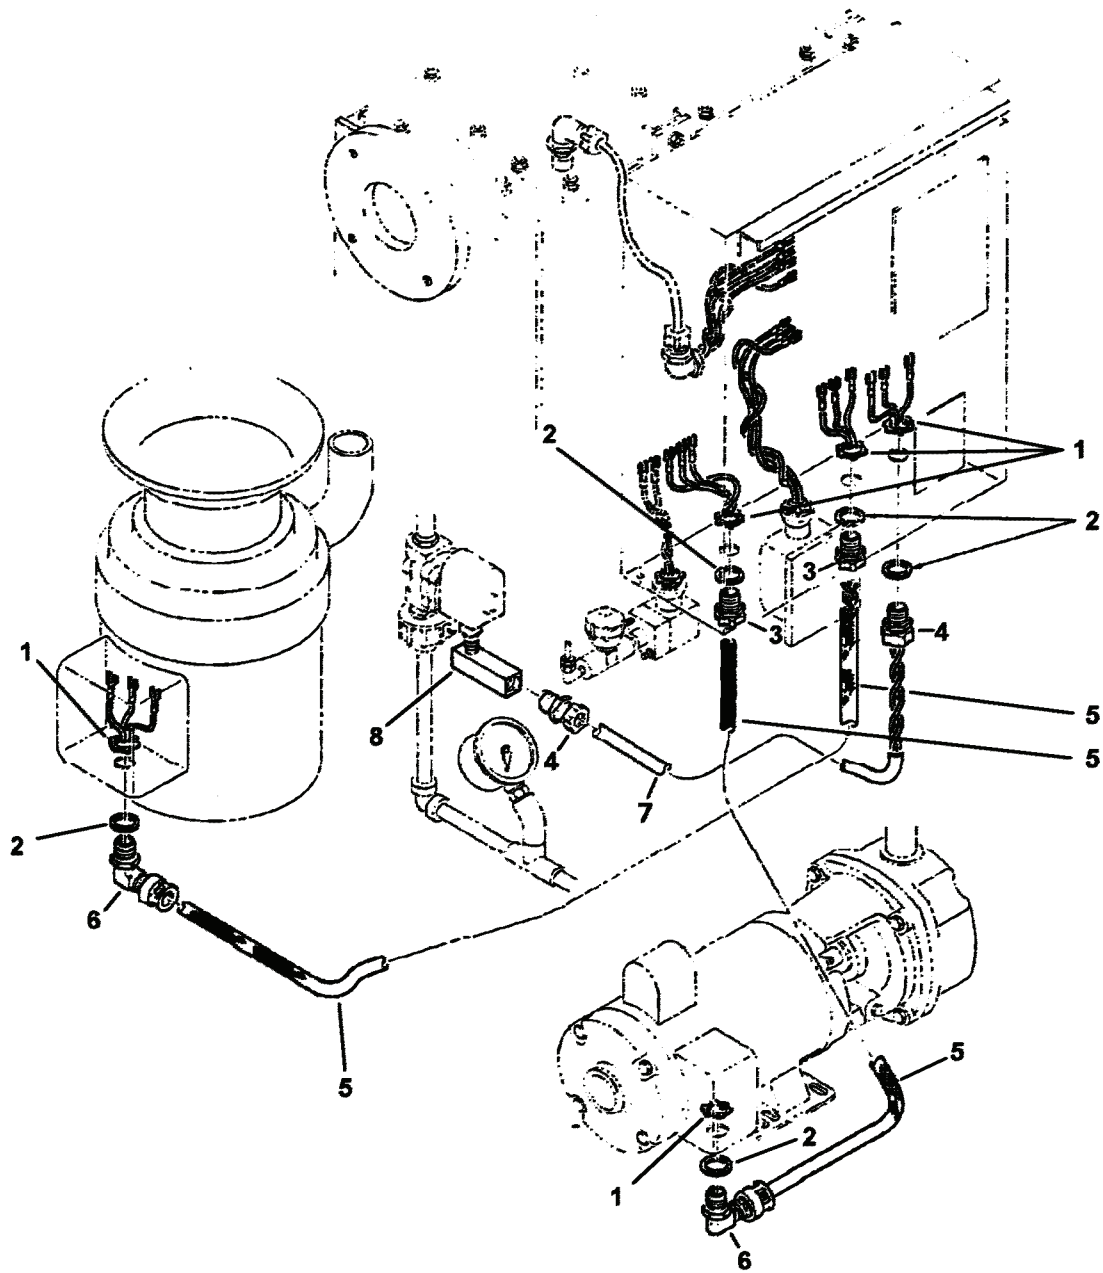

Figure 2-13. Cable Equipment Routing Assembly.
2-14. Cable Equipment Routing Assembly. (Figure 2-13)
REMOVAL (See Figure 2-13 to identify the attaching point of each cable.)
- a. The procedure for disconnecting the cable from the flow pump and the macerator is the same. See Figure 2-13 for approximate flow pump and macerator locations, and remove the appropriate cable as follows:
- (1) Loosen the cable connector (6) at the electrical connection box on the pump.
- (2) Remove the electrical box cover from the pump and disconnect the wires from the pump terminals. Label all wires so that they can be returned to the same terminals on the pump when installing the new cable.
- (3) Remove the appropriate conduit locknut (1) from the cable connector (6) on the inside of the control panel assembly and withdraw the cable (5) and connector (6) from the control panel assembly.
- (4) Remove the cable connector (6) from the end of the cable (5) and gasket (2).
- a. The procedures for replacing the cable on the flow pump and the macerator are the same. See Figure 2-13 for pump locations. Connect the appropriate cable as follows:
- (1) Remove the cable from the flow pump or the macerator as described in removal procedure step a.
- (2) Run the cable (5) through the same cable connector (3) on the control panel assembly that the old cable was removed from.